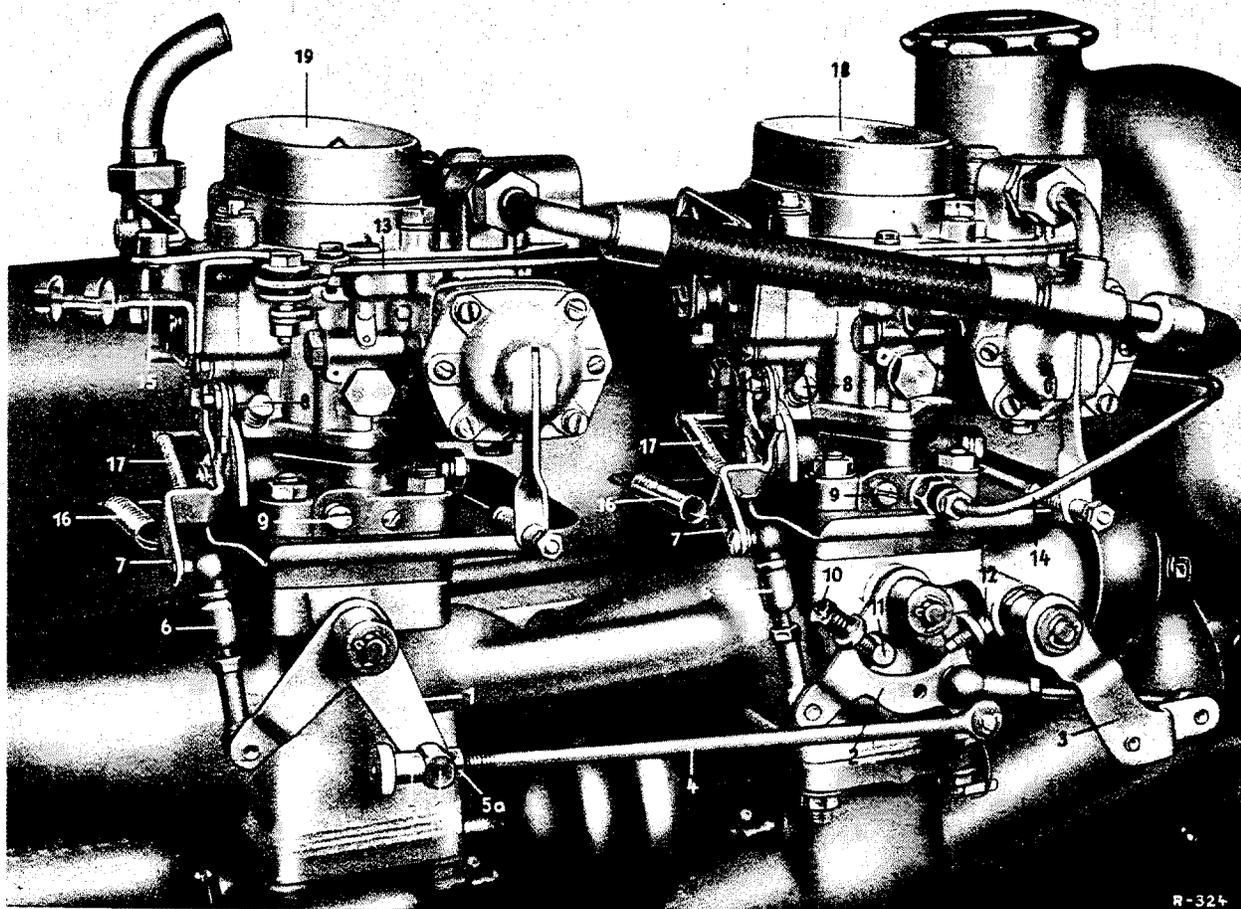

Fig. M 31 S/5
1. Detach the connectors (6) at both carburetors and slacken and back out the nuts (5) and (5a) of the pull rod (4) at the rear angle relay lever (1) until the pivoting drive lug (1a) is completely free (Fig. M 31 S/5).
2. Check the throttle valves of the carburetors for freedom of movement and if in doubt about this, detach the return springs (16) and (17).
3. Back out the idle adjustment screws (8) on both carburetors to the point where the throttle valves are completely closed. Then bring the idle adjustment screw (8) up to the point where it lies against the idle stop and screw it in exactly one turn.
1. After adjusting the carburetor linkage, screw in the idle mixture adjustment screw (9) completely on both carburetors as far as it will go and then back it out exactly two turns (see Fig. M 31 S/5).
2. Warm up the engine to its normal working temperature (70—80° C. cooling water temperature) and then, by evenly adjusting the idle adjustment screws (8), adjust the idle to a speed of approx. $n = 800$ r.p.m., using Revolution Counter 000 589 12 21.
3. Adjust the two idle mixture adjustment screws (9) by screwing **evenly** in and out so that
4. Once more adjust the idle speed to approx. $n = 800$ r.p.m. by means of the idle adjustment screws (8).